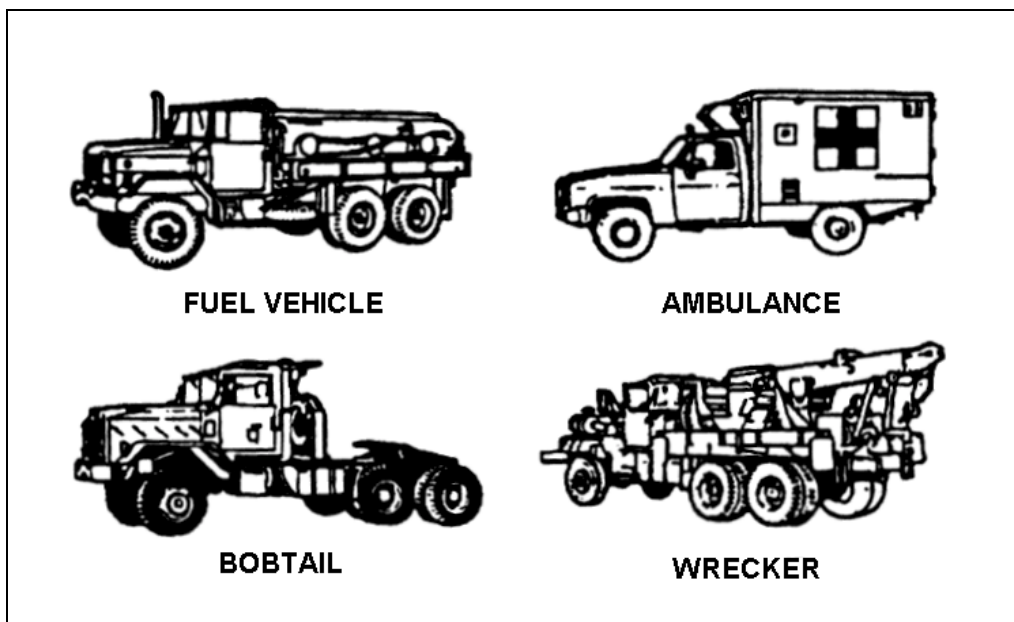

Figure 5-3. Equipment Included in the Trail
- The trail is the last section of a march element. The trail consists of recovery, maintenance, and medical support. The trail officer is responsible for march discipline, breakdowns, straggling vehicles, and control at the scene of any accident involving his march unit until the arrival of civilian authorities. Figure 5-3, page 5-3, shows equipment that can potentially be included in the trail.